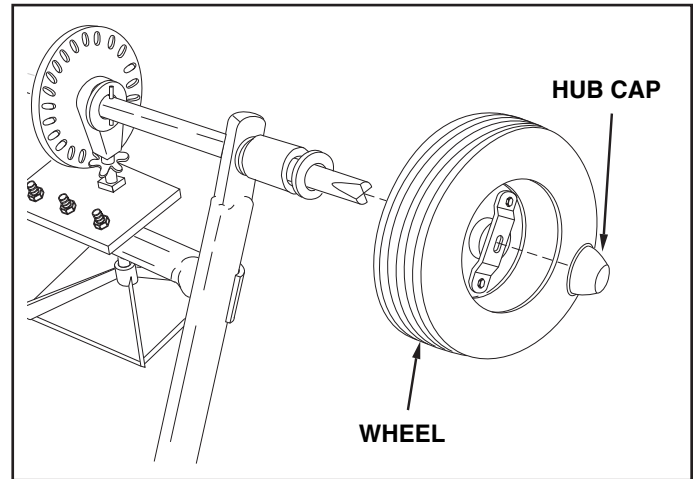

FIGURE 3
5. Place the drive wheel onto the end of the axle that has an indent. The long end of the hub goes to the inside. See figure 3.
6. Lightly tap a hub cap onto the axle until it is snug against the wheel. See figure 3.
1. If the axle, slotted gear and sprocket assembly is disassembled, mark down the positions of the parts as they are removed. The drive wheel and sprocket positions in relation to the slotted gear determine which direction the spreader plate will spin. Be sure to reassemble them in their original positions. (Refer to figure 3 on page 4.) Use shim washers (Ref. no. 21 on pages 10 and 11) as needed for minimum backlash. Add grease to gear and sprocket.